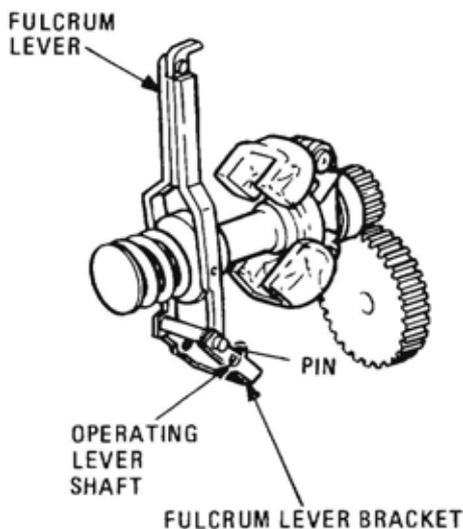
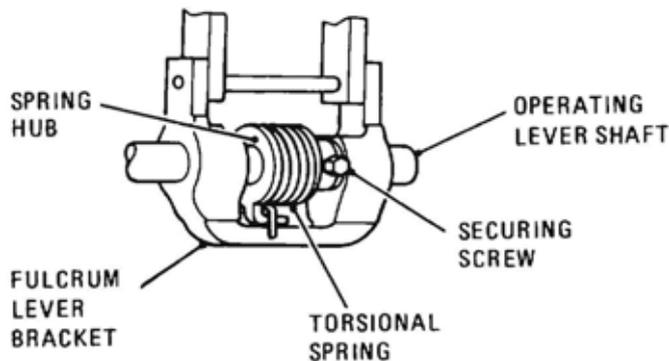

Figure 26 Governor and Fulcrum Lever
Figure 27 Fulcrum Lever Bracket
43. The fulcrum lever is connected at its lower end to the fulcrum lever bracket by means of a pin. The fulcrum lever bracket extends around the operating lever shaft, but is not rigidly connected to it (Figure 26). The spring hub is firmly secured to the operating lever shaft and connected through a double torsional spring to the fulcrum lever bracket (Figure 27), which allows relative movement between the operating lever shaft and fulcrum lever bracket.